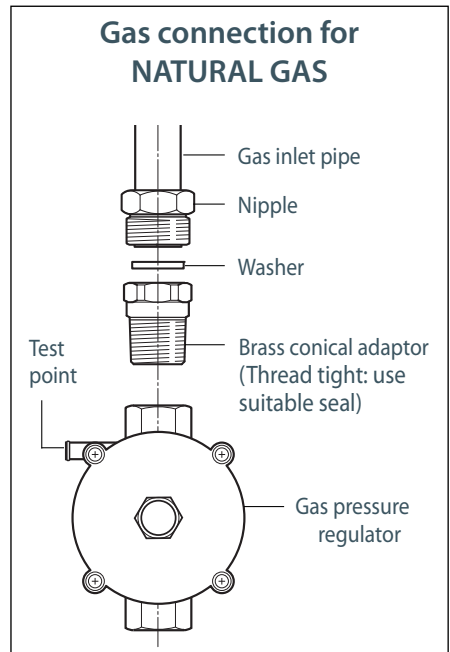

Fig. 5 Natural gas connection
- For Natural gas, connect the gas supply to the gas pressure regulator which is supplied with the appliance (Fig.5). Adjust the regulator to obtain a test point pressure of 1 kPa with the two semi-rapid burners operating at the maximum.